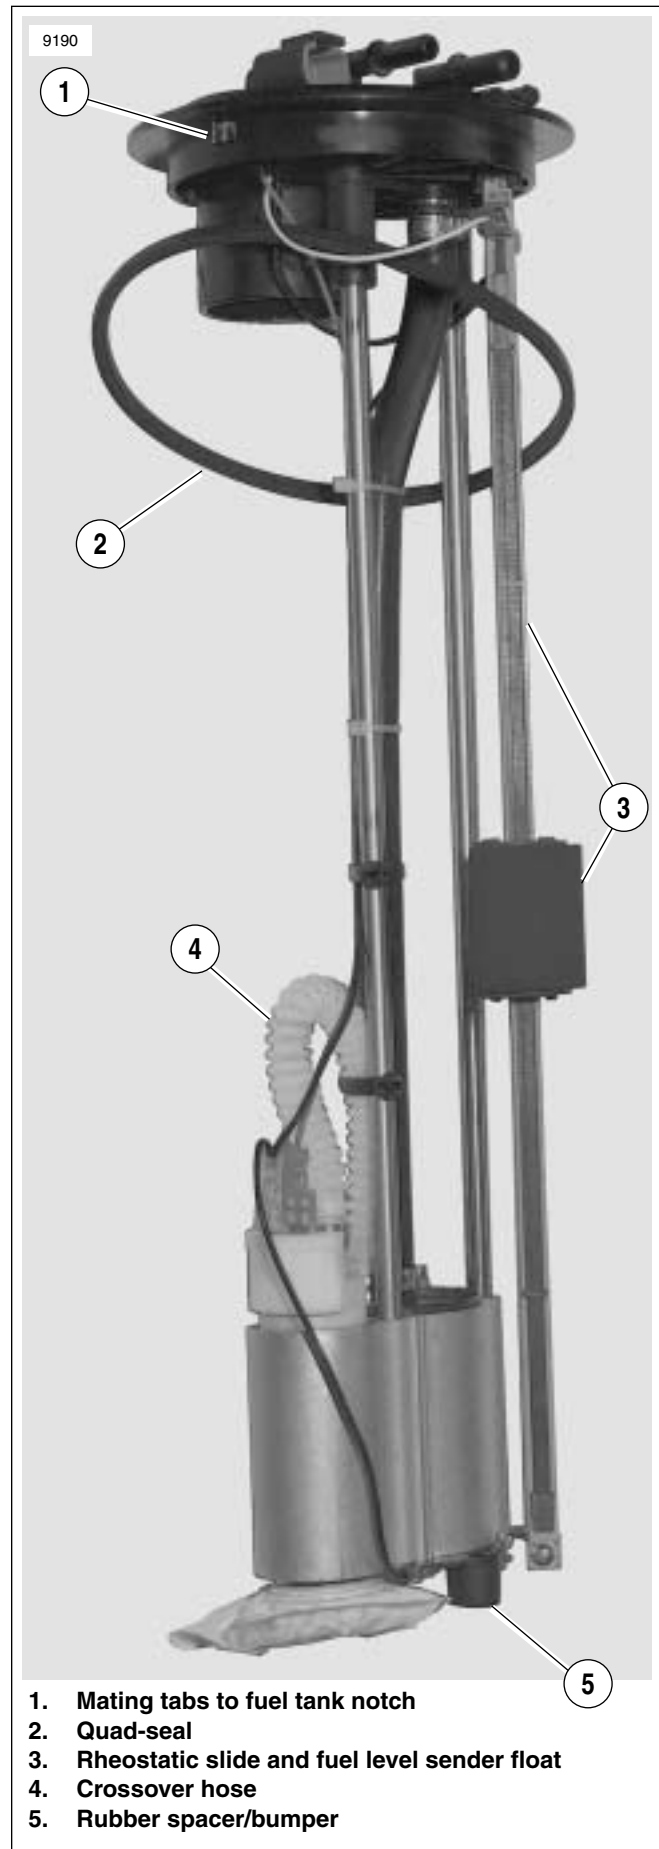

Figure 4-4. Fuel Pump/Filter/Sender Assembly
- See Figure 4-4. Insert fuel pump/filters/fuel level sender assembly into fuel tank. The two side by side tabs (1) on the right underside of the top plate mate to a notch in the collar in the fuel tank allowing the top plate to fall into position and the rubber spacer/bumper (5) on the bottom of the fuel pump/filters/fuel level sender assembly to rest on the bottom of fuel tank.